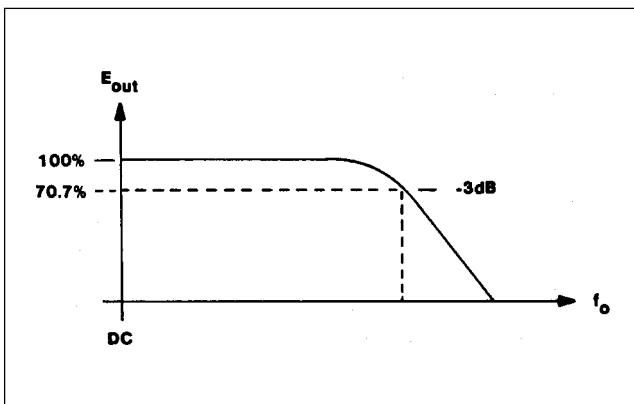

Figure 3-7. Bandwidth is defined as the frequency in the response curve where amplitude has decreased by d 3 dB.
**Oscilloscope bandwidth and rise time.** Bandwidth is defined as the point on an amplitude versus frequency plot where the measurement system is 3 dB down from the reference level. This is illustrated in Figure 3-7 which shows a response curve with the 3 dB point indicated.